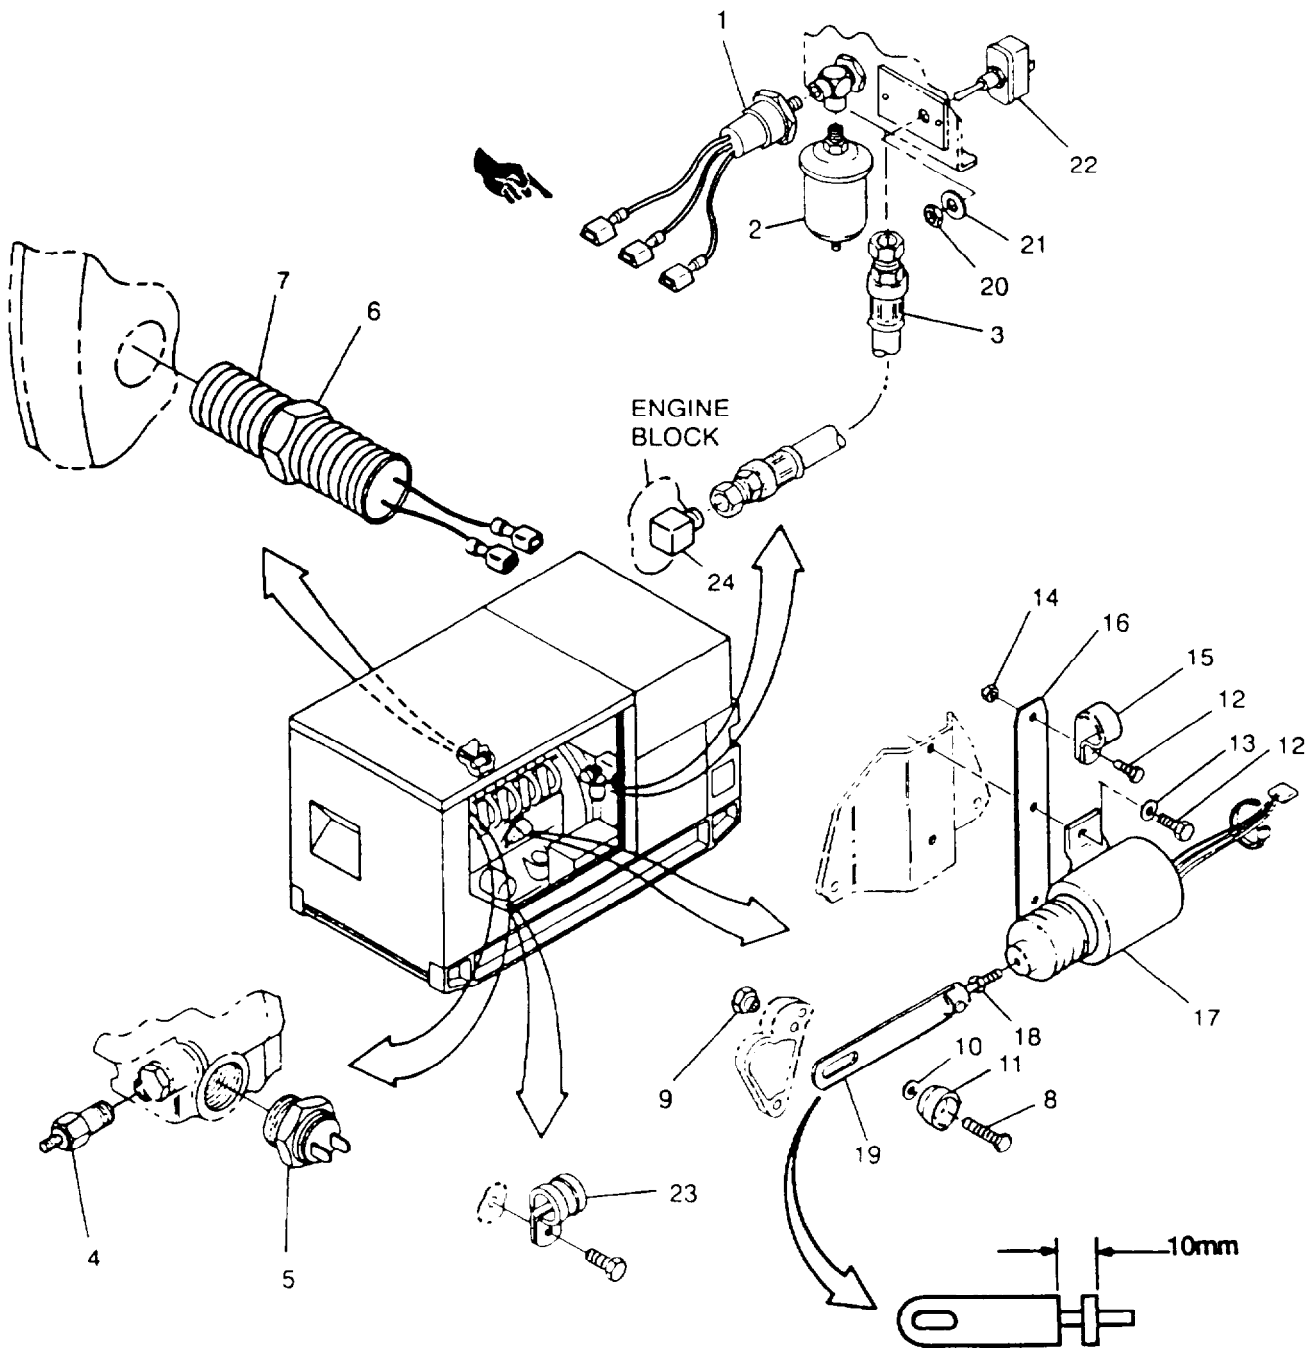

FIGURE 2-25. Engine Related Switches and Senders
- c. Tag and disconnect low oil pressure switch (1, FIGURE 2-25) electrical leads.
- a. Install low oil pressure switch (1, FIGURE 2-25) into fitting on left side rear engine wall
- c. Disconnect electrical lead from oil pressure sender (2, FIGURE 2-25).
- c. Tag and disconnect oil pressure sender (2, FIGURE 2-25) electrical lead.
- d. Unscrew oil pressure sender (2) from fitting on left side rear engine wall
- b. Clean oil pressure sender with dry, filtered compressed air and wipe with cleaning cloth (Item 6, Appendix C) lightly moistened with approved solvent (item 19, Appendix C).
- d. Inspect oil line (3, FIGURE 2-25) for deterioration and damage.
- a. Screw oil pressure sender (2, FIGURE 2-25) into fitting on left side rear engine wall.
- c. Disconnect and tag electrical lead from coolant temperature sender (4, FIGURE 2-25)
- c. Tag and disconnect temperature sender (4, FIGURE 2-25) lead.
- d. Unscrew temperature sender (4) from thermostat housing.
- a. Install coolant temperature sender (4, FIGURE 2-25) into thermostat housing.
- c. Tag and disconnect coolant high temperature switch (5, FIGURE 2-25) electrical leads.
- d. Unscrew coolant high temperature switch (5) from thermostat housing.